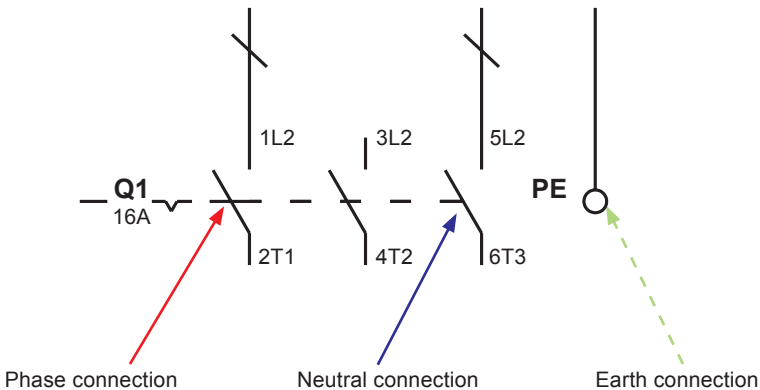

Fig. 2
Mains supply is directly connected to the primary side of the incoming control panel isolator (shown with the IP2X cover removed) and main earth terminal as shown in Figure 2.
- Check that all the electrical connections are secure and as per the wiring diagram (Section 3.3, Figure 2).